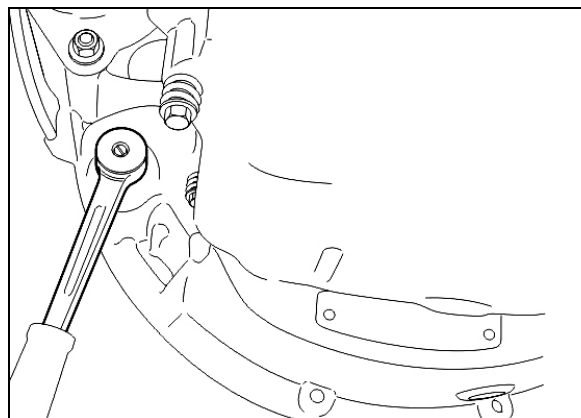

FIGURE 11: VOLVO ENGINE CRANKING POSITION
Remove starter motor located on engine L.H. side. Removing the starter motor will allow access to unfasten the 12 converter-to-flexible plate attaching screws. Remove the plug located below starter motor and install cranking tool (88800014). Cranking the engine to gain access to the attaching screws may be done by turning the cranking tool using a suitable adapter (fig. 11).
*Remove the plug located below starter motor and install cranking tool (88800014). Crank the engine to gain access to the threaded holes by turning the cranking tool using a suitable adapter (Refer to fig. 11).*